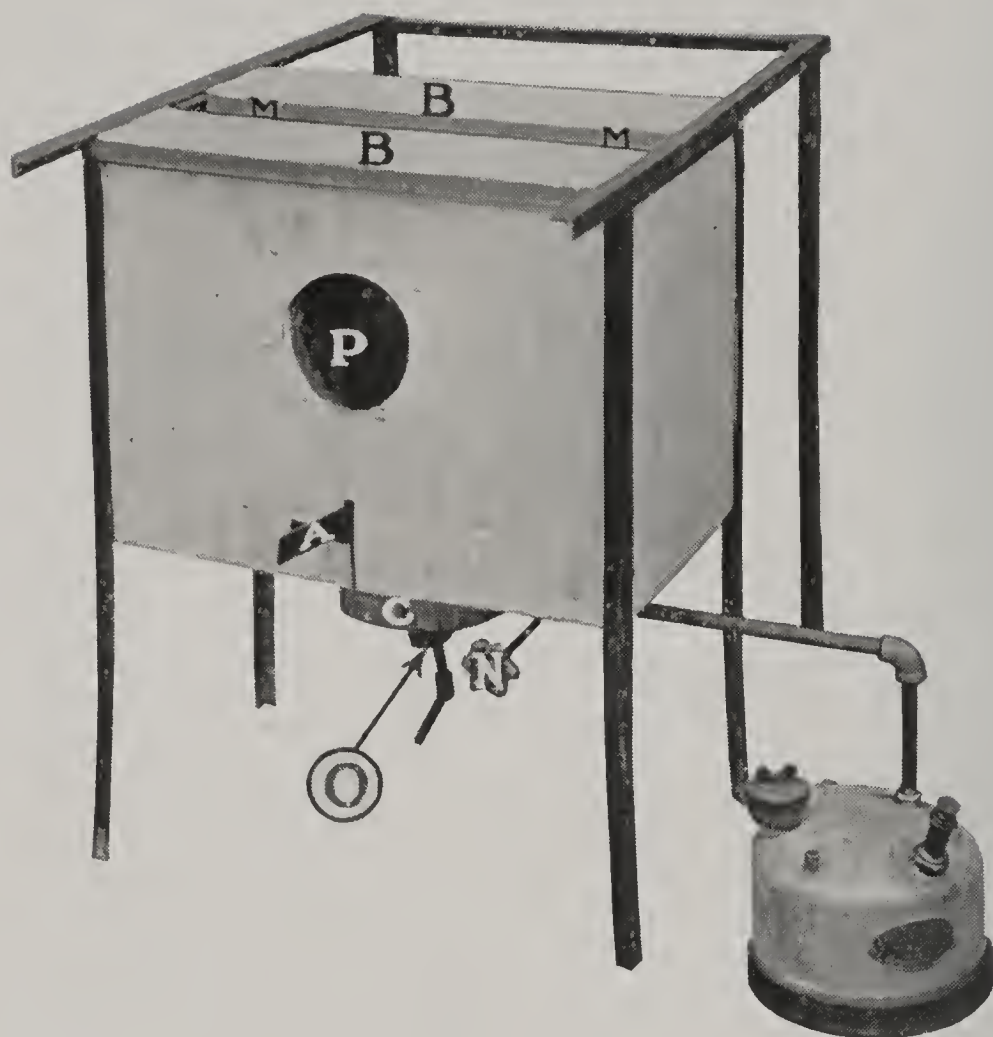

Fig. 122
58. **Equipment**—The "machine" for doing this work can be constructed at very slight expense in any sheet metal shop. The boiling vat, Fig. 35, and lead lined acid vat have been described. Aside from these there are two "machines" needed. The "pouring machine," Fig. 122, and the flux pan or vat, Fig. 123. The radiator may be dipped in flux instead of pouring it on. In that case a larger supply of flux is needed.
In Fig. 124, the radiator is laid in place for pouring. Shields "R" and "S" are of twenty gauge iron. The half inch breaks at the ends span the tanks. This holds the shields in place as the radiator is shifted forward on the machine. The edges of the shields under the radiator are edged the same. This edge is inserted between the fins. The purpose of these shields is to protect the tanks and ends of the tubes from the heat coming up thru opening "M" in Fig. 122. The shields also serve to direct the heat thru the frozen portion of the tubes.